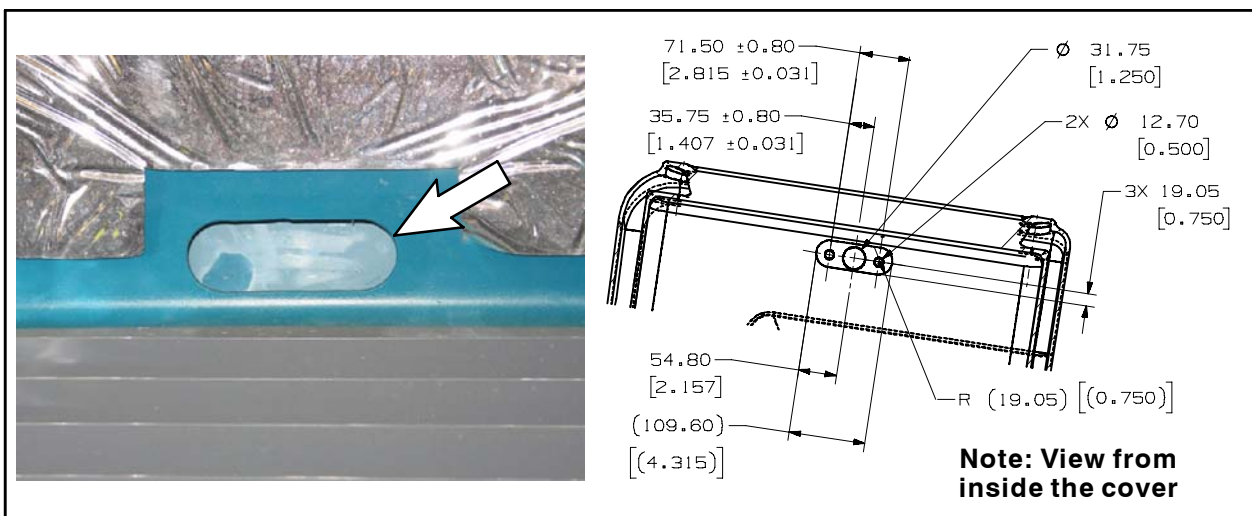

FIG. 1
1. Drill a 0.25" pilot hole into the center of the slot in the main cover. Refer to Fig. 1.
2. Use the 0.25" drilled in the previous step as a reference to measure locations for the 0.50" holes. Refer to Fig. 1.
3. Use a hole saw to cut a 1.25" hole into the main cover. Refer to Fig. 1.
4. Drill two 0.50" holes into the main cover. Refer to Fig. 1.
5. Deburr the 1.25" and 0.50" holes. Refer to Fig. 1.